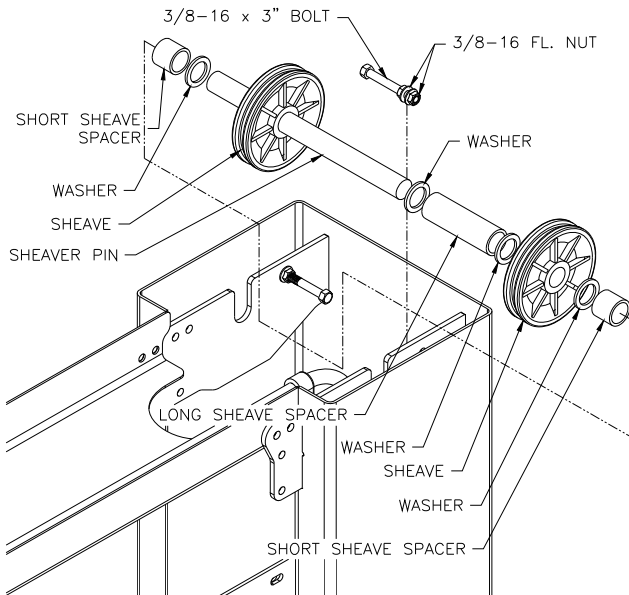

Fig 5 – Sheave Assembly
- Assemble the sheaves and spacers onto the sheave pin as shown in **Fig 5**. Set in cradle with all assembly parts between the two plates.